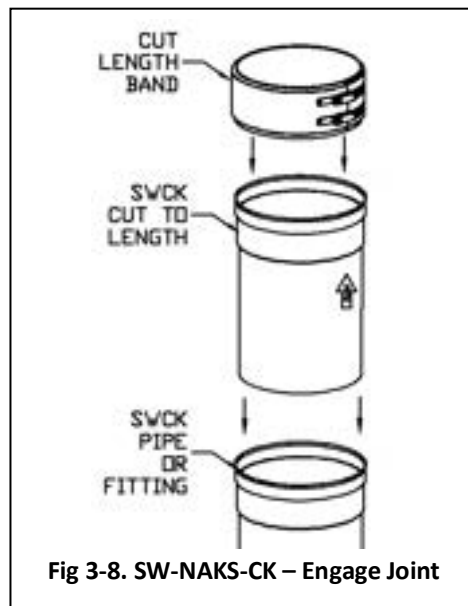

Fig 3-8. SW-NAKS-CK – Engage Joint
6. Engage Cut length until it bottoms out in the adjacent female socket. (See Fig 3-8).